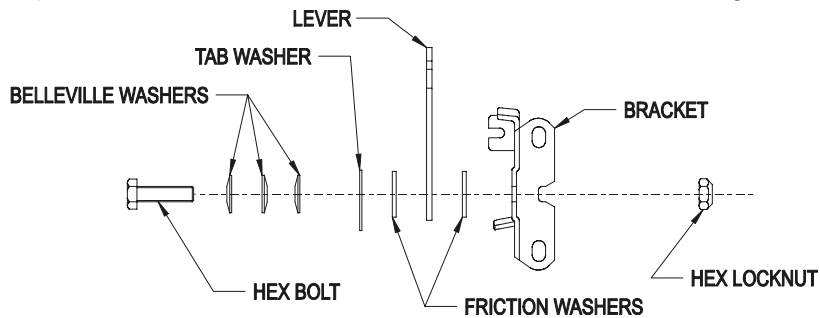

FIGURE 12
- b) Tension in throttle lever can be adjusted by adjusting the tightness of the lever pivot bolt, which is located under the console. See Figure 12.